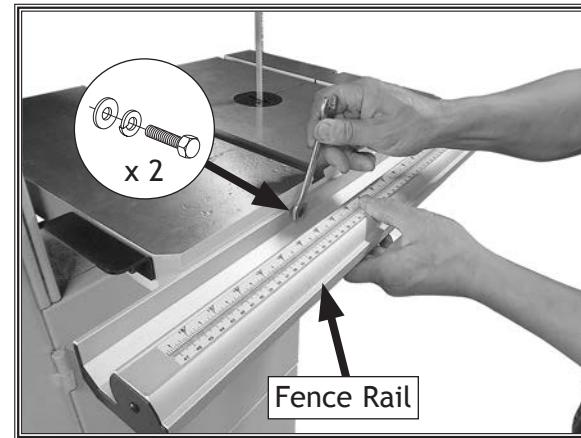

Figure 25. Installing fence rail.
9. Install fence rail using (2) M6-1 x 20 hex bolts, (2) 6mm flat washers, and (2) 6mm lock washers (see **Figure 25**).